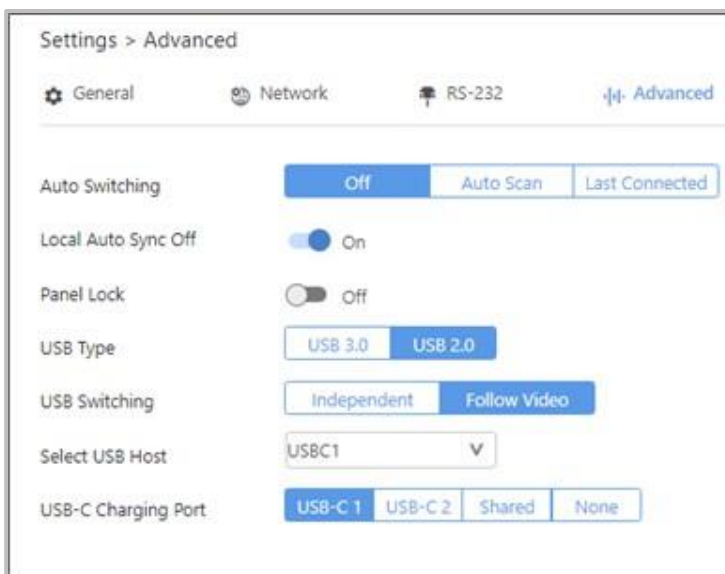

Figure 28: Settings Page – Advanced Tab
2. Select the Advanced tab (Figure 28).